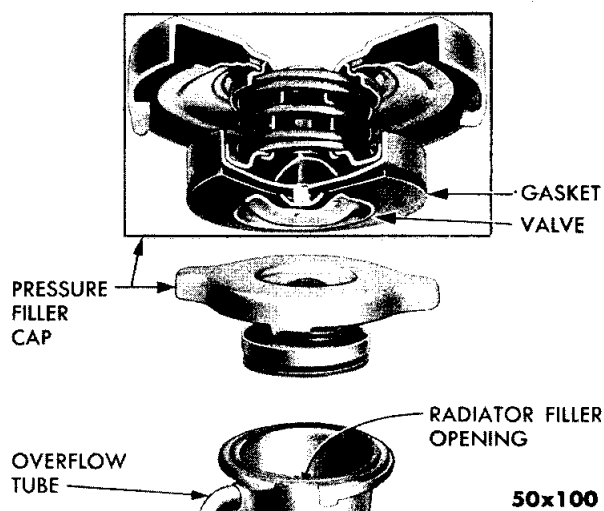

Fig. 12—Pressure Type Radiator Filler Cap
10. PRESSURE TYPE RADIATOR FILLER CAP (TRUCKS SO EQUIPPED) (FIG. 12, PAGE 11)
Some of the B-4 Series Truck models (refer to Service Standards) are equipped with a pressure type radiator filler cap (Fig. 12). This cap is designed to allow the engine to operate at a higher than normal operating temperature without noticeable loss of coolant.